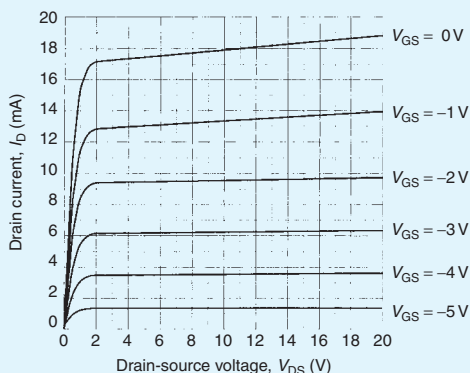

Figure 12.28
- The output characteristics of a JFET are shown in Fig. 12.28. If this device is used in an amplifier circuit operating from an 18 V supply with a gate-source bias voltage of  $-3 \text{ V}$  and a load resistance of  $900 \Omega$ , determine (a) the quiescent values of drain-source voltage and drain current, (b) the peak-peak output voltage when an input voltage of  $2 \text{ V}$  peak-peak is applied, and (c) the voltage gain of the stage.